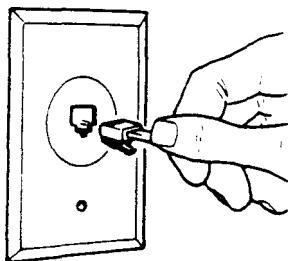

Figure 4
16. Connect the other end of the Telephone Cable to the Customers Telephone outlet Jack on the wall **Figure 4.**